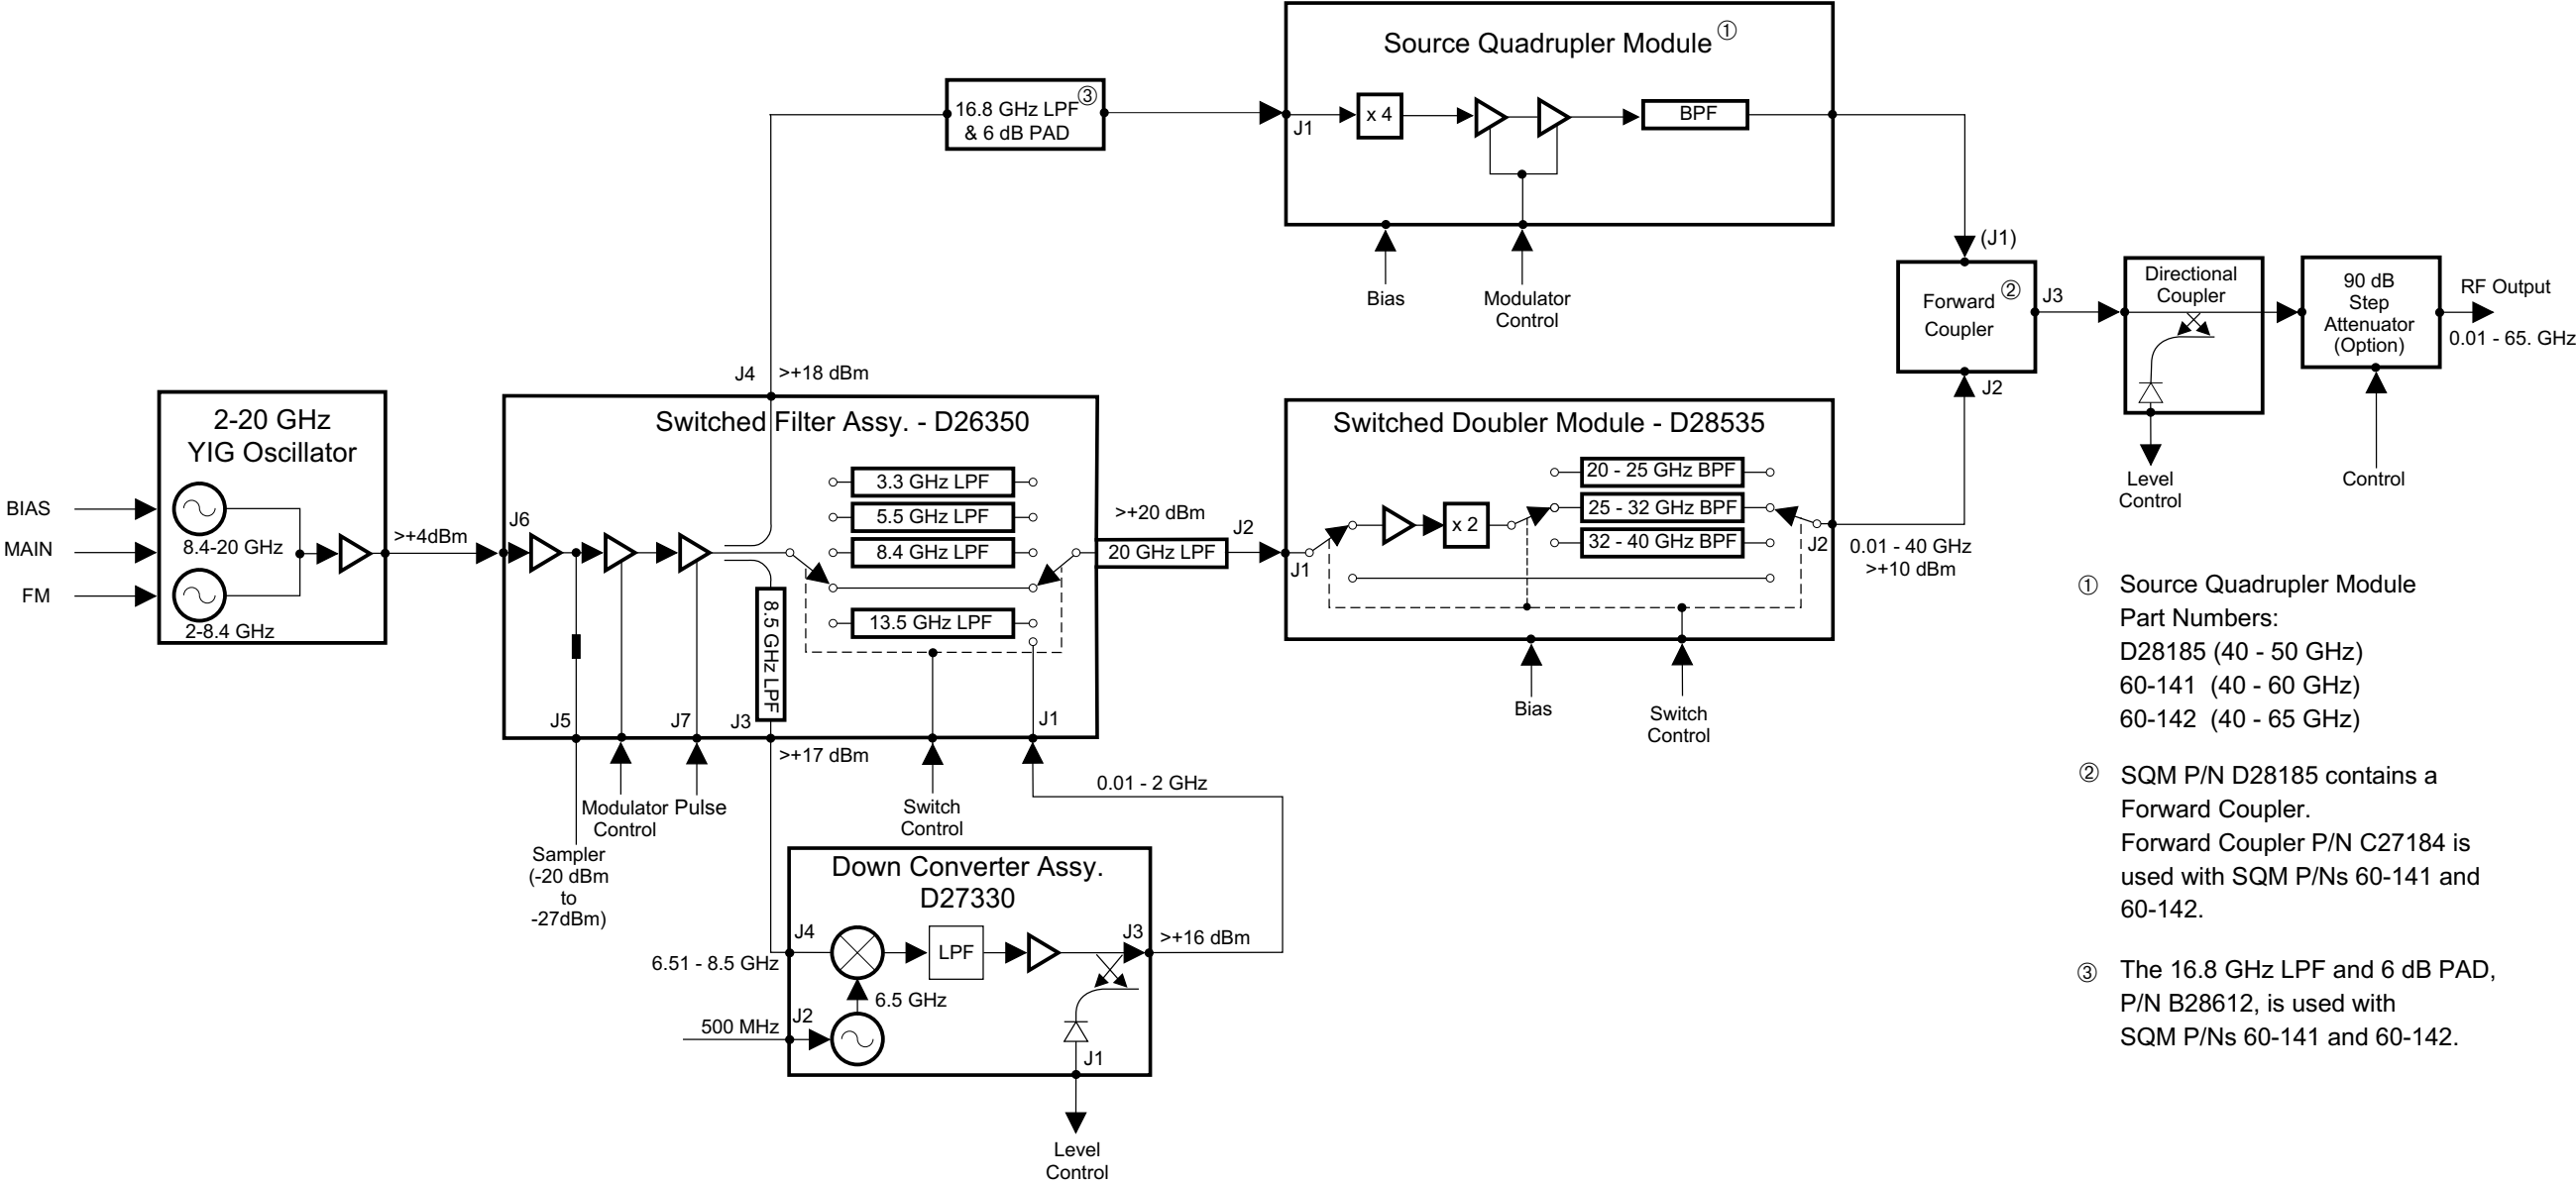

Figure 2-5. Block Diagram of the RF Deck Assembly for all >40 GHz Models (except 682X5B/683X5B Models)
RF output frequencies of 40 to 65 GHz are developed by quadrupling the 10 to 16.25 GHz fundamental frequencies (refer to Figure 2-5, page 2-22). Precise control of the 40 to 65 GHz to 1 kHz (0.1 Hz with Option 11) resolution is achieved by phase-lock control of the 10 to 16.25 GHz fundamental frequencies prior to quadrupling.
- ❑ Figure 2-5, page 2-22, is a block diagram of the RF deck assembly for all > 40 GHz models except for 682X5B/683X5B models.
coupler in the switched filter path of high power switched filter assemblies provides the RF signal for the source quadrupler module (refer to Figure 2-5). Whenever an instrument is generating RF signals of >40 GHz, a RF signal is coupled out via J4 to the source quadrupler module.